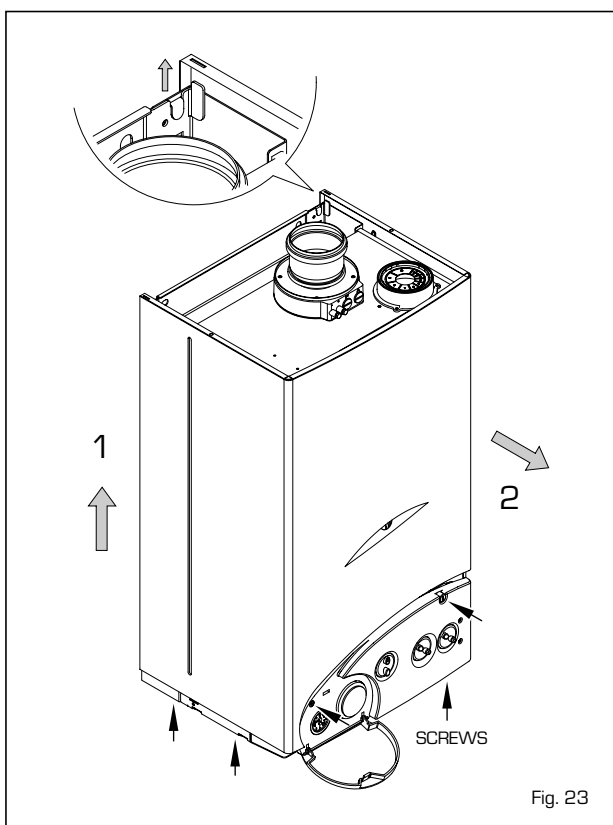

Fig. 23
- Remove the casing as shown in fig. 23.